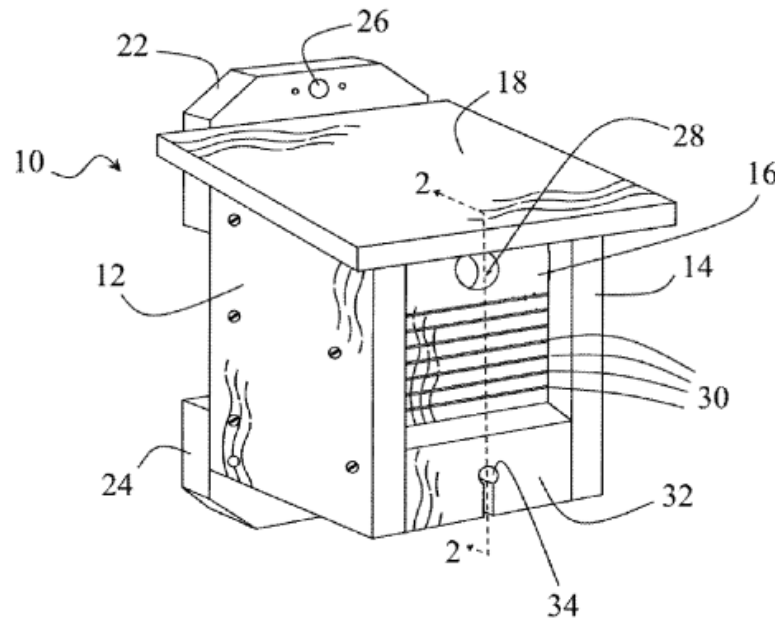

Figure 7.38 - Bird Shelter - Image courtesy of US Patent and Trademark Office
1. Knowing that dimensioning within an object should be avoided, sketch the side piece of the bird shelter in figure 7.38 and place the dimensions outside of the object. You do not need to include the numeric values, just draw the appropriate extension lines and then show where you would place the dimension. Your sketch should show six dimensions. Remember extension lines can be drawn inside an object for clarity, but avoid placing the dimension inside the object.